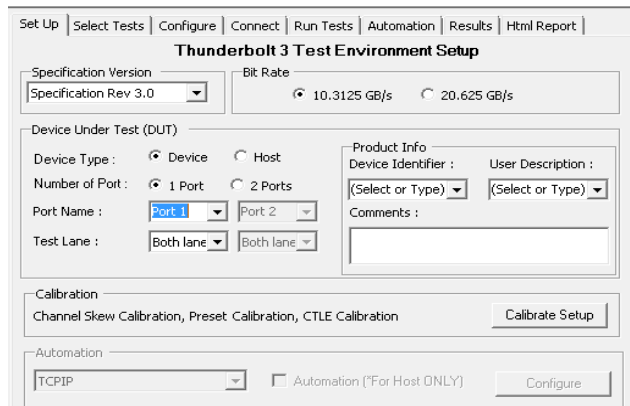
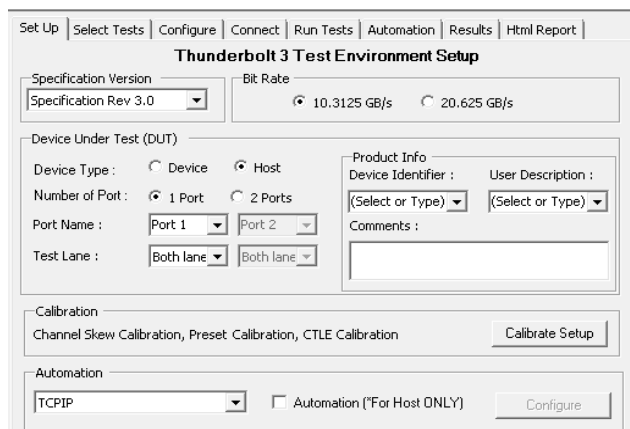

Figure 19 Set Up options for DUT Type “Device” operating at 10.3125 GB/s
Figure 20 Set Up options for DUT Type “Host” operating at 10.3125 GB/s
- 2 Under the **Set Up** tab, select the following options, as shown in Figure 19 and Figure 20.